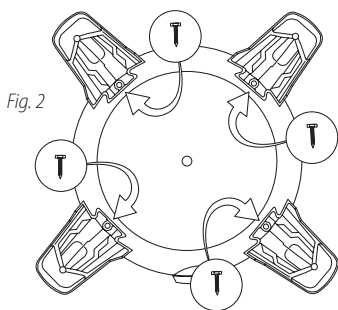

Fig. 2
3. Secure caster feet **5** to tank with screws **10** provided. **Fig. 2**.